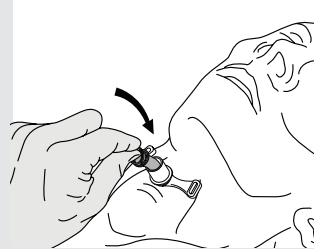

Figure 2
8. Using aseptic technique, insert the inner cannula into position. **(Figure 2)**